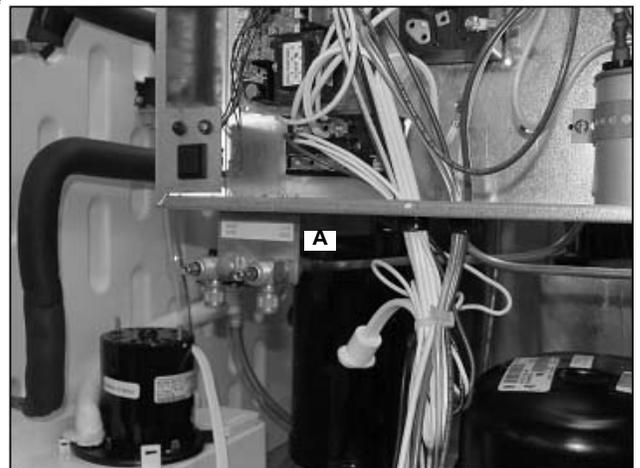

Figure 18.
11. Remove the 2 screws connecting the service valve bracket (A) to the control box (Figure 18).